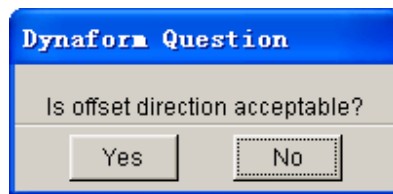

Figure 5.1.6 DYNAFORM Question window
- The DYNAFORM Question window is displayed. See Figure 5.1.6. There is an arrow in the display window indicating the offset direction.